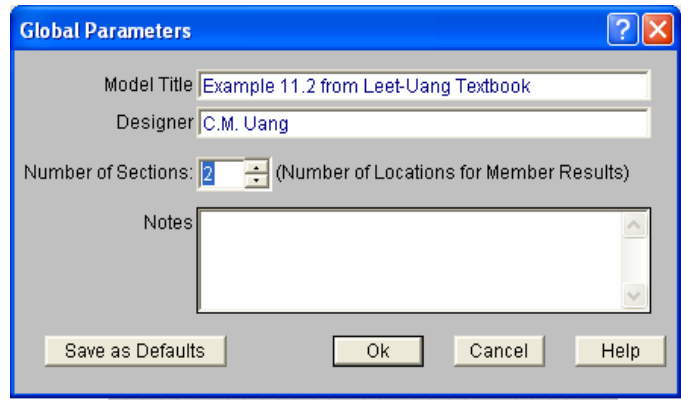

Figure 3
- (2) If you have created an input file previously, click **File** from the manual bar and select **Open** to open the input file. Otherwise, you can go to the next step to create a new model.
- (3) Click **Global** from the manual bar and enter the information for **Model Title** and **Designer** in the **Global Parameters** window (see Figure 3). The program can provide internal forces (moment, shear, axial force) at a number of equally spaced sections along a member. The default number of sections is 5, which is useful when you analyze continuous beams or frames. For truss analysis, however, the only internal member force is axial load, and the axial load is constant along a truss member. Set the **Number of Sections** to 2 so that the internal forces at both ends of the member will be provided. Click **OK** once you have completed the information.
- (13) The joint deflection information can be viewed by clicking **Joint Deflections** from the **Results** toolbar (see Figure 13). Clicking **Member Forces** from the **Results** toolbar gives a summary of internal forces in all members (see Figure 14). These are the member forces calculated along each member. The number of sections for which forces are reported is controlled by the **Number of Sections** specified in the **Global Parameter** window (see Figure 3). The number of member segments is the **Number of Sections** minus 1. The length of each segment is the same. For example, if you specify 5 sections, the member is divided into 4 equal pieces, and the forces are reported for each piece (see Figure 15). As for the sign convention, the signs of these results correspond to the member's local axes, using the right hand rule. The left side forces at each section location are displayed. There are three force values for each section location. These are axial, shear and moment. As can be seen in Figure 15, the section forces listed at any given section are the *left side* forces. For axial forces, compressive is positive. For moments, counter-clockwise around the member axis is positive.